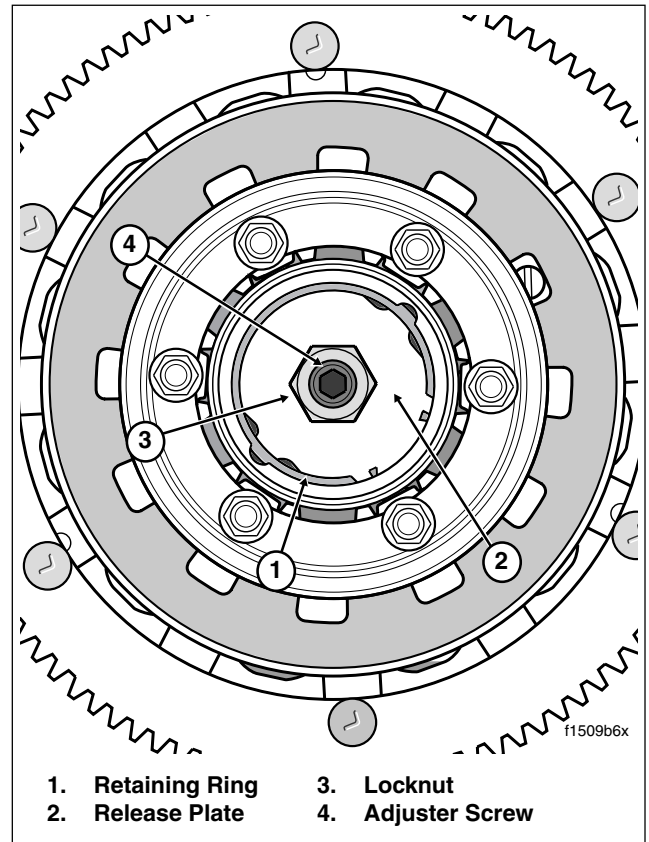

Figure 6-16. Clutch Hub Release Plate Assembly
- Remove retaining ring and pull release plate (with lock-nut and adjuster screw) from clutch hub. See Figure 6-16.